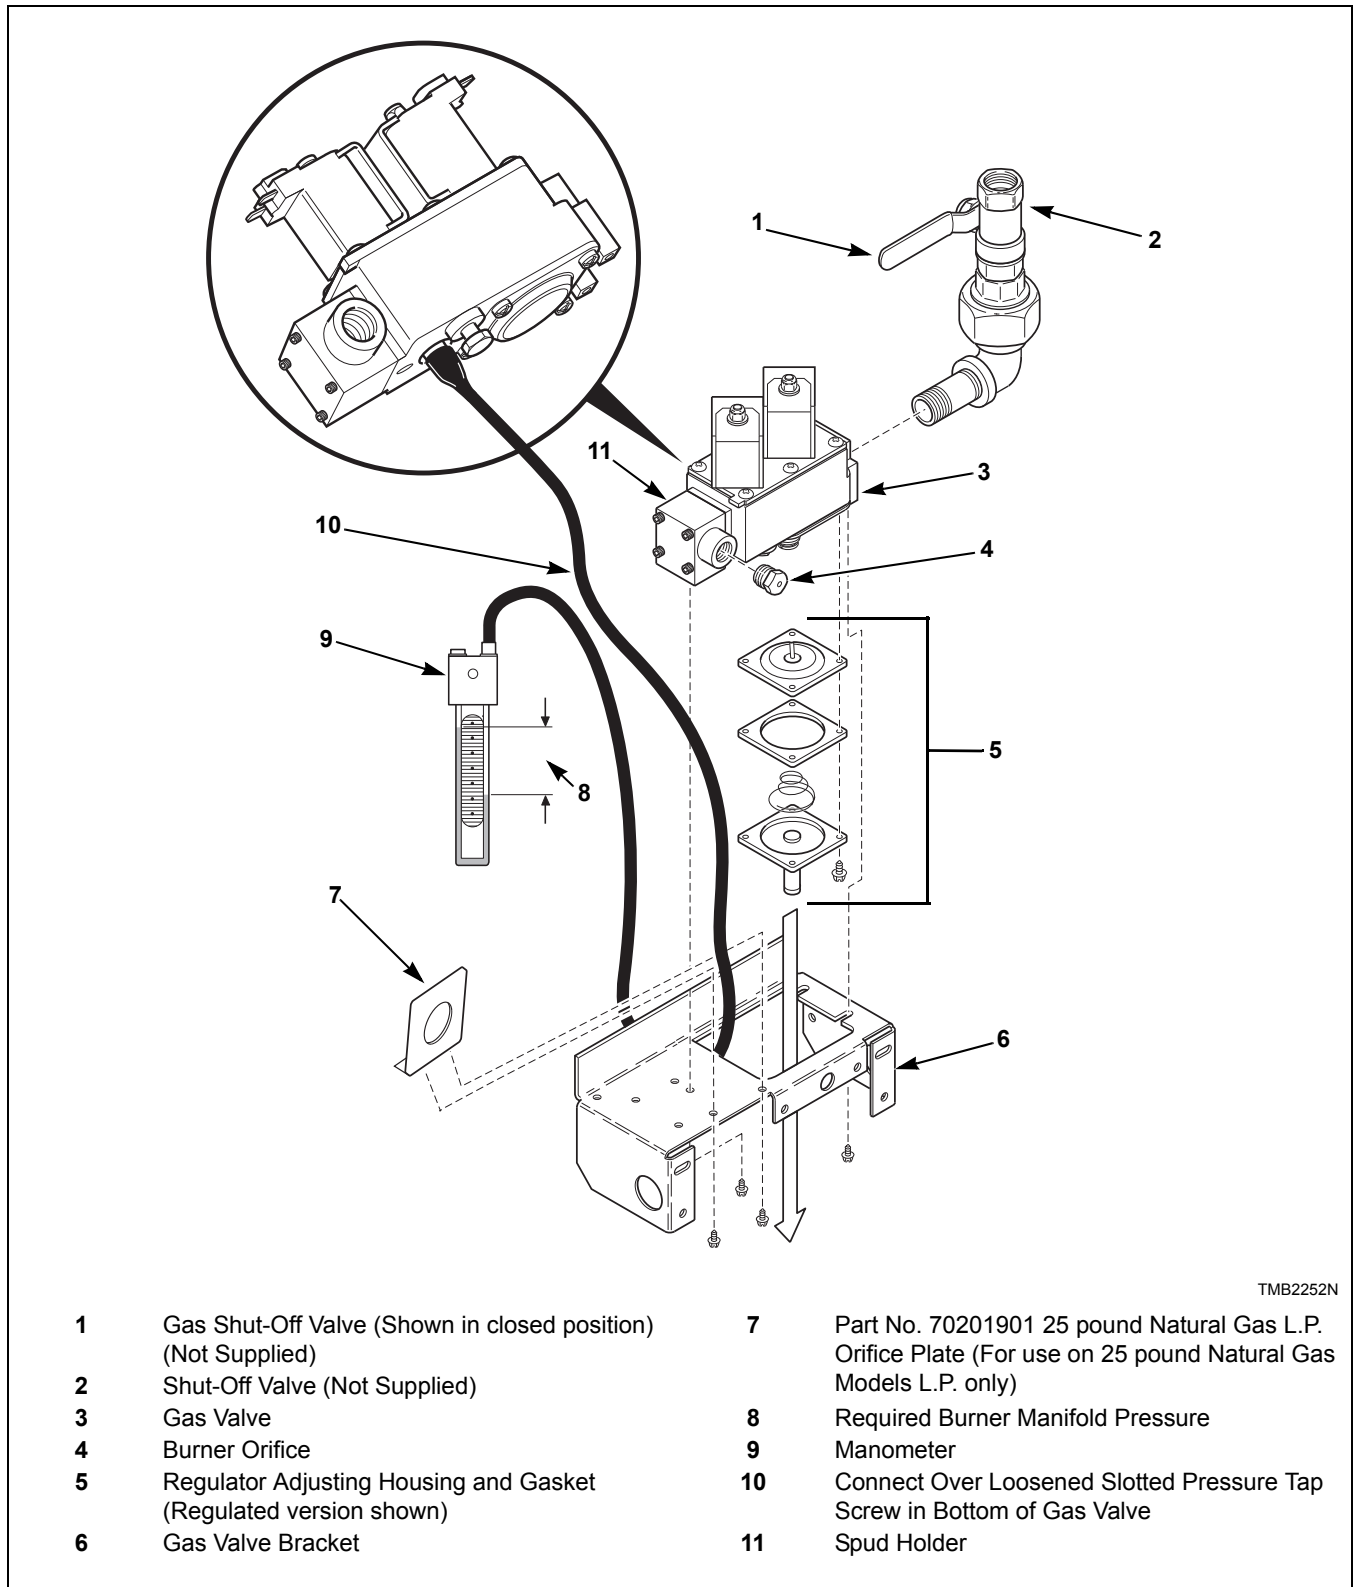

Figure 10
1. Disconnect electrical power from tumble dryer. Close gas shut-off valve to tumble dryer. Refer to *Figure 10*.
4. For 25 pound Natural Gas models, L.P. Gas only. Install 25 pound L.P. orifice plate (Part No. 70201901) onto gas valve bracket. Refer to *Figure 10*.
2. For Johnson GM7000 gas valve: Refer to *Figure 10*.
Remove burner orifice(s) from the spud holder. Refer to *Figure 10*.
1. Check gas burner orifice (manifold) pressure as follows. Refer to *Figure 10*.
2. Loosen screw plug inside pressure tap located on underside of valve. Refer to *Figure 10*.